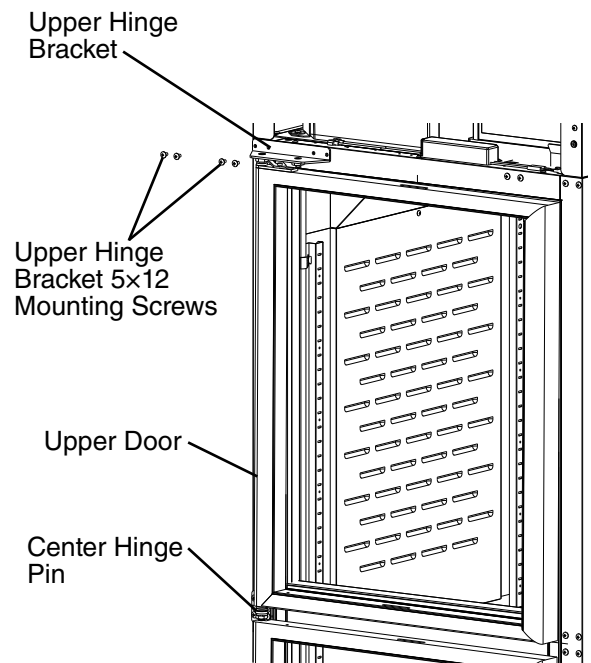

Fig. 66
- 19) While supporting the upper door and upper hinge bracket, place the upper door onto the upper center hinge pin on the center hinge bracket in the closed position, then secure the upper hinge bracket to the cabinet. See Fig. 66. **NOTICE! Be sure to reuse the bracket screws for mounting the bracket as the bracket screws are 5x12 and filler screws are 5x10.**